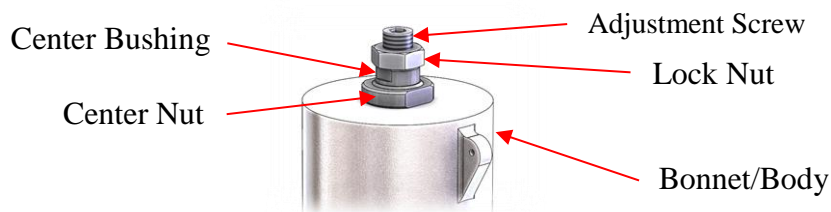

**Figure 16: 1" Body Inner Bonnet Components**
13. Disassemble the center bushing from the adjustment screw if they are still together. See Figure 16.
15. Remove and discard the o-ring located on the adjustment screw. See Figure 16.
16. Unscrew the adjustment bushing from the adjustment screw. The adjustment bushing has left handed threads. See Figure 16.